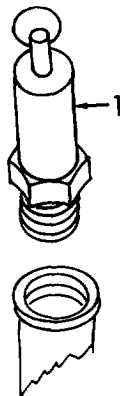

Figure 3-33. Safety Valve, Removal.
- a. *Removal.* Unscrew and remove the safety valve (1, Figure 3-33).